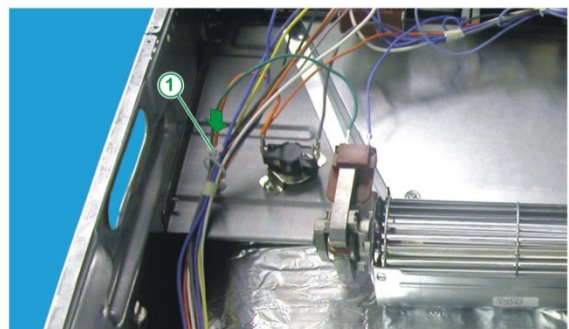

Fig. 19
21. Re-fit the cable fastener in the purpose-designed hole in the new sheet metal controls protection, and correctly reposition the cabling (see Fig. 19).